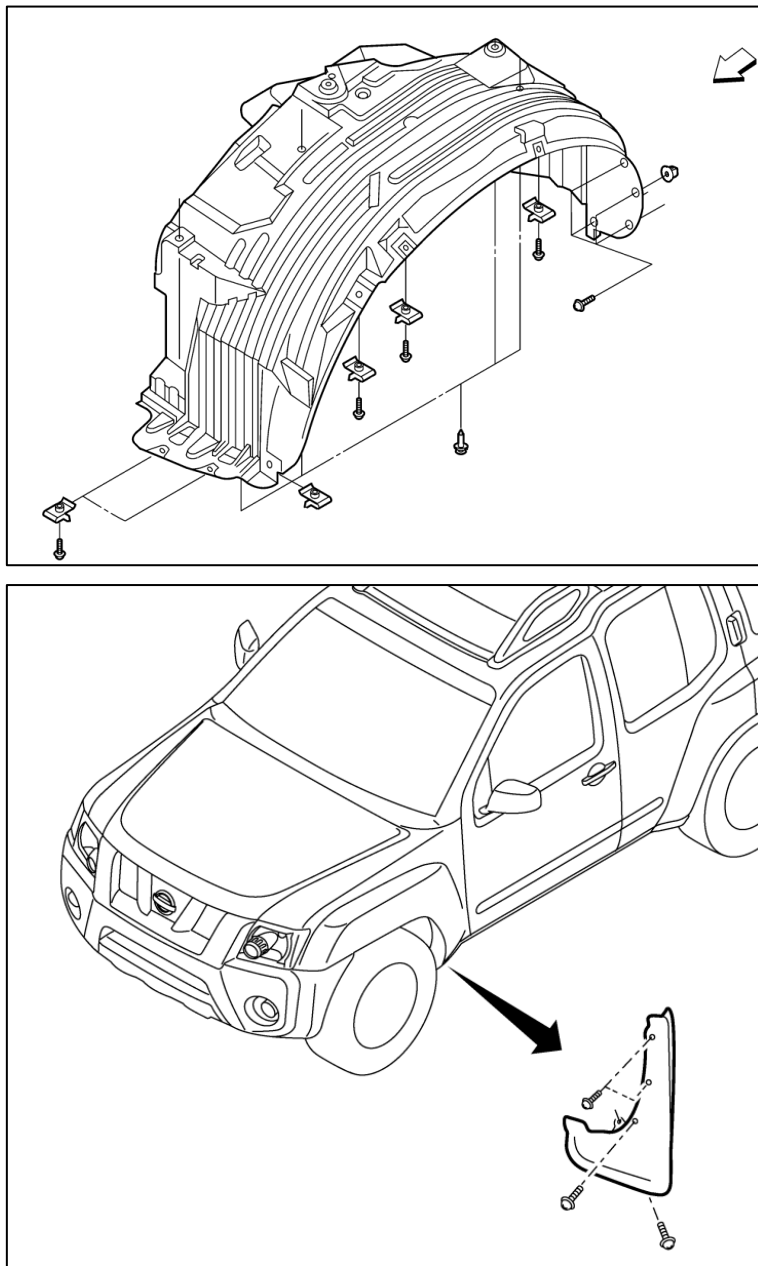

Figure 1
5. Remove the front Fender Liners and Mud Guards from the vehicle. They will be secured by a combination of screws and plastic tabs. *Figure 1.*